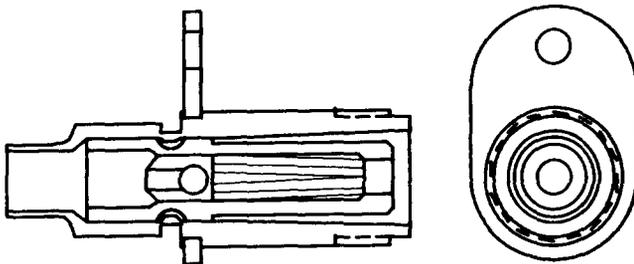

Fig. 4—KS-16417, L1, Coaxial Jack
2.04 KS-16417, L1: The KS-16417, L1, jack (Fig. 4) is a coaxial jack designed to mate with the KS-16416 plug. This jack is used on RG-59/U cable in the J68371A transmitter-receiver bay of the TJ Radio Relay System.